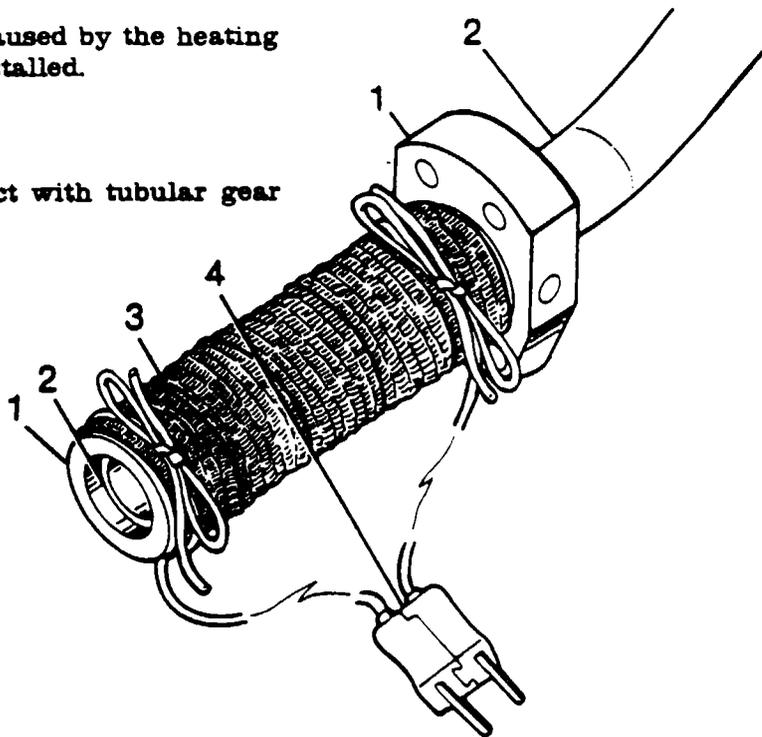

Figure 5-4. Bonded Main Wheel Axle Removal
5-27. BONDED MAIN WHEEL AXLE REMOVAL. (See figure 5-4.)
- g. Wrap heating tape around axle from base head to outer end of axle and tie it on with string provided with the tape, as shown in figure 5-4.
5-28. BONDED MAIN WHEEL AXLE INSTALLATION. (See figure 5-4.)